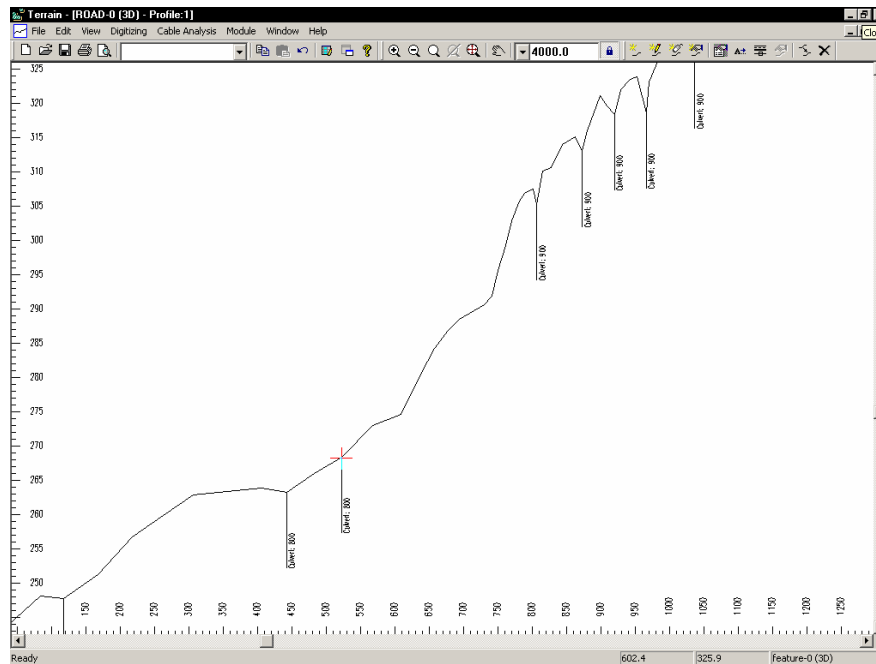

Figure 12.2: Profile with Current Station at 522
7. To examine the profile near the proposed culvert at station 522. Using <Ctrl + N> and <Ctrl + B> move the current point to station 522 (as shown in Figure 12.2).